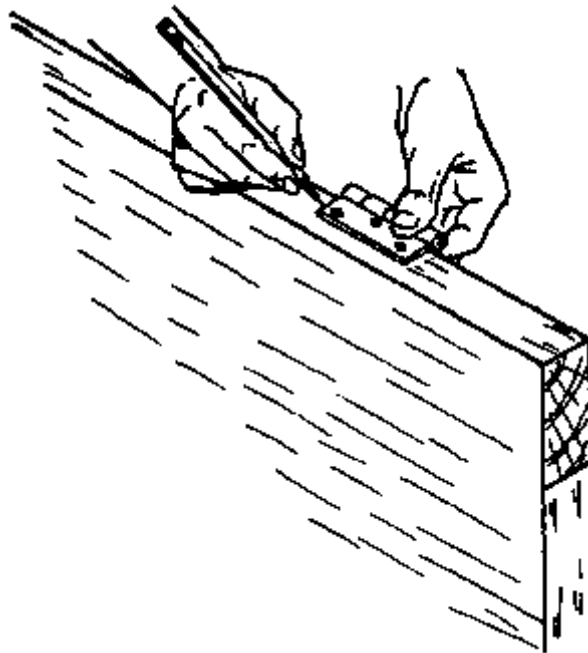

Fig. 1
- c. Mark the positions of the hinges, then take the door down and mark the length of the hinges on the door (Fig. 1).